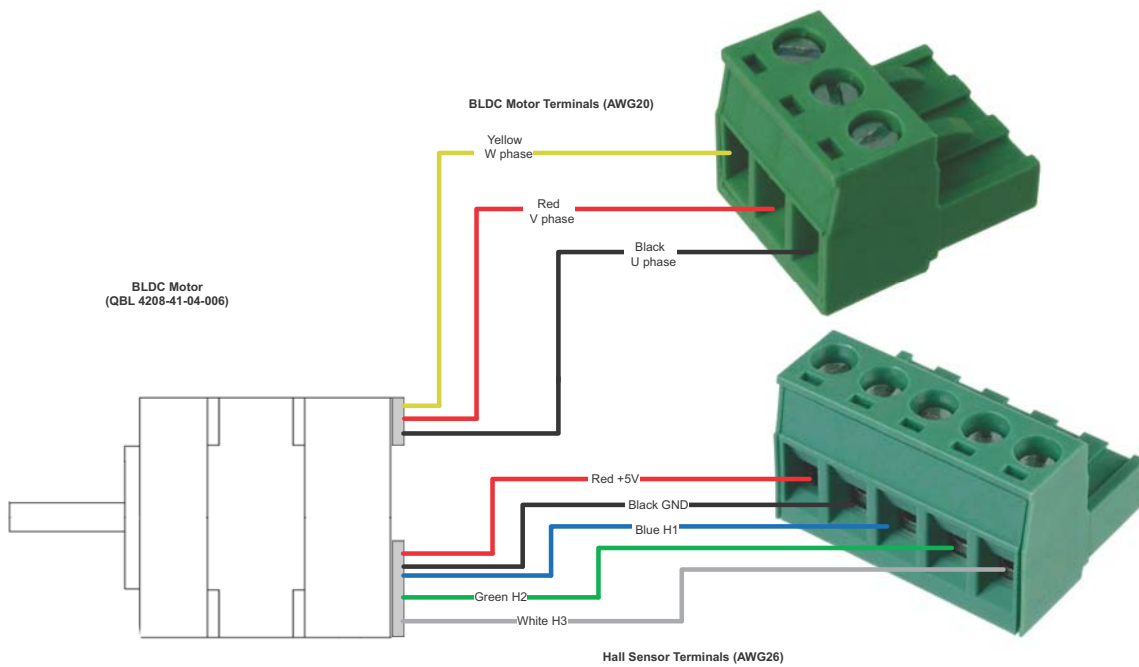

Figure 29 • Wiring Diagram for BLDC Motor Connectors
1. Identify and isolate the **BLDC Motor Terminals** (set of 3) and **Hall Sensor Terminals** (set of 5), as shown in Figure 29. These terminals are tied together.
2. Connect the **BLDC Motor Terminals** to the three pin plug, as shown in Figure 29.
3. Connect the **Hall Sensor Terminals** to the five pin plug, as shown in Figure 29.